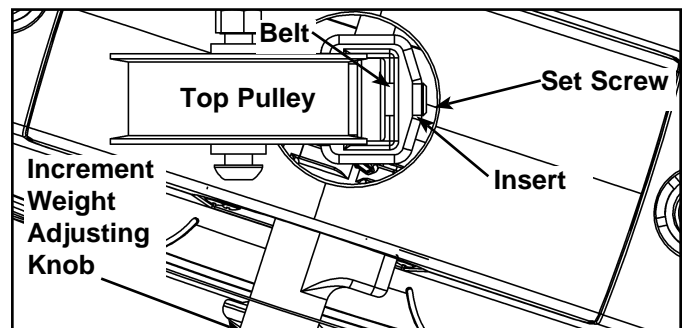

Figure 8
- B. Verify the belt clamp on the top weight is positioned properly with the top pulley. **NOTE:** The belt must have a straight path from the pulley to the belt clamp. See Figure 8. **NOTE:** Figure 8 shows the top view, looking from the top pulley down to the top plate.